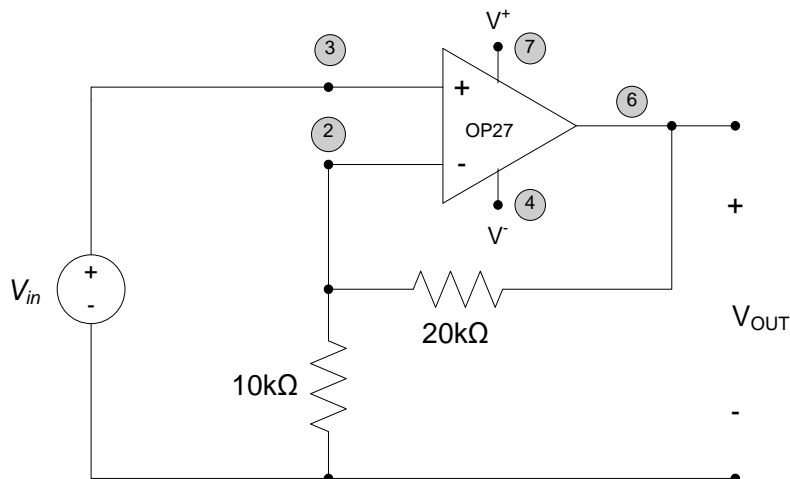

Figure 1. Inverting amplifier circuit.
The circuit shown in Fig. 1 is called a non-inverting amplifier. Appropriate pin numbers for the OP27 operational amplifier are provided on Fig. 1. v_{in} is the applied (input) voltage to the circuit. v_{out} is the output voltage from the circuit.
Determine the relationship between V_{in} and V_{out} for the circuit shown in Fig. 1. Why is the circuit called a non-inverting voltage amplifier?
1. Implement the amplifier shown in Fig. 1. Create a schematic of the circuit in your lab notebook, record actual resistance values, and label supply voltages on your schematic. Recommended connections are as follows: